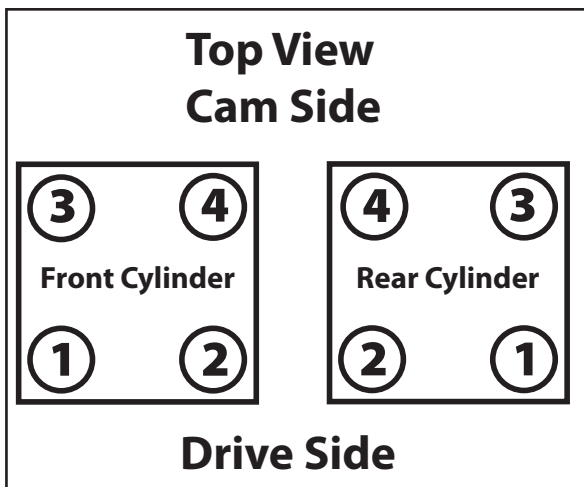

Figure 2
- i. Tighten each bolt finger tight using the sequence in **Figure 2**.